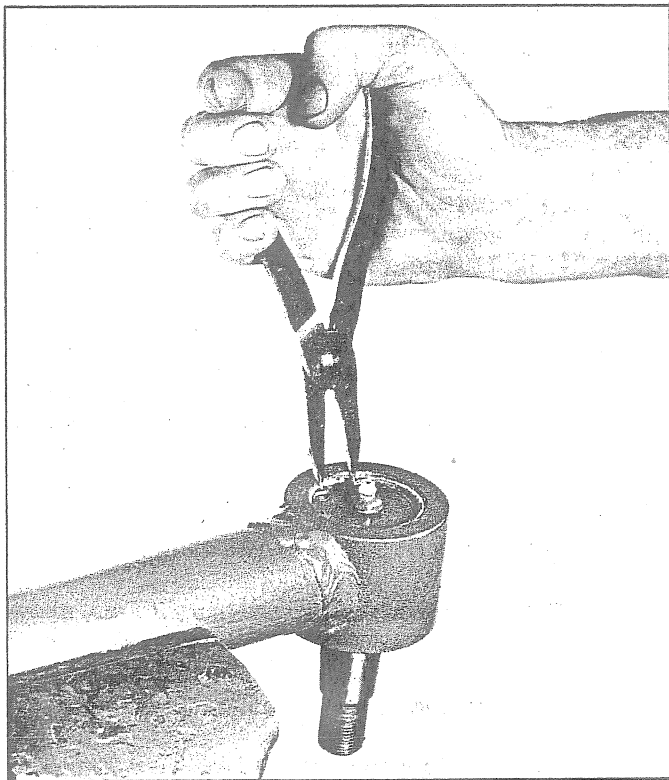

Fig. 131 - Removing Retaining Ring
1. Remove retaining ring as shown in Fig. 131. Then remove ball stud retaining plate.